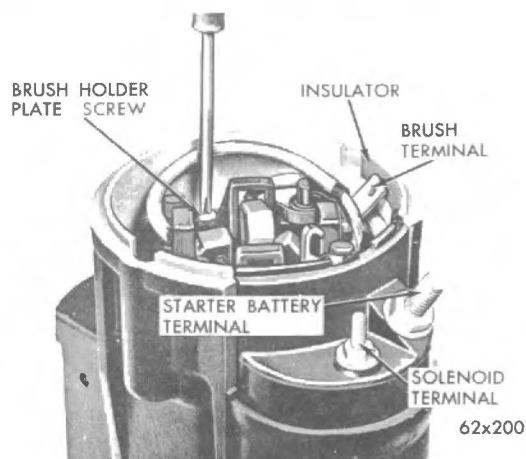

Fig. 6 Removing Brush Holder Plate Screw
(6) Remove the starter brush insulator which prevents contact between the brush terminal and the gear housing. (See Fig. 6).
(7) Remove the screw attaching the brush holder plate to the starter gear housing. (See Fig. 6).